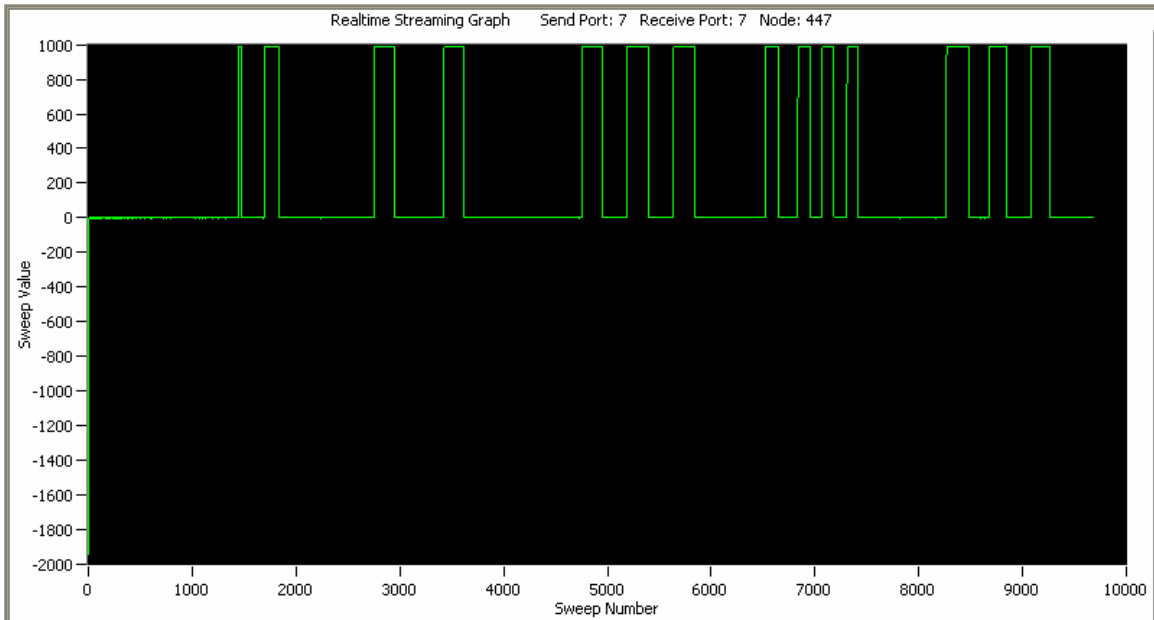

Figure 8
- During the streaming, push in and release several times, the button on the edge of the Tester Board to shunt the resistor in and out of the stream. This will appear as a stepped (green) line as shown in Figure 8. Steps will be ~ 1000 μ -strain.